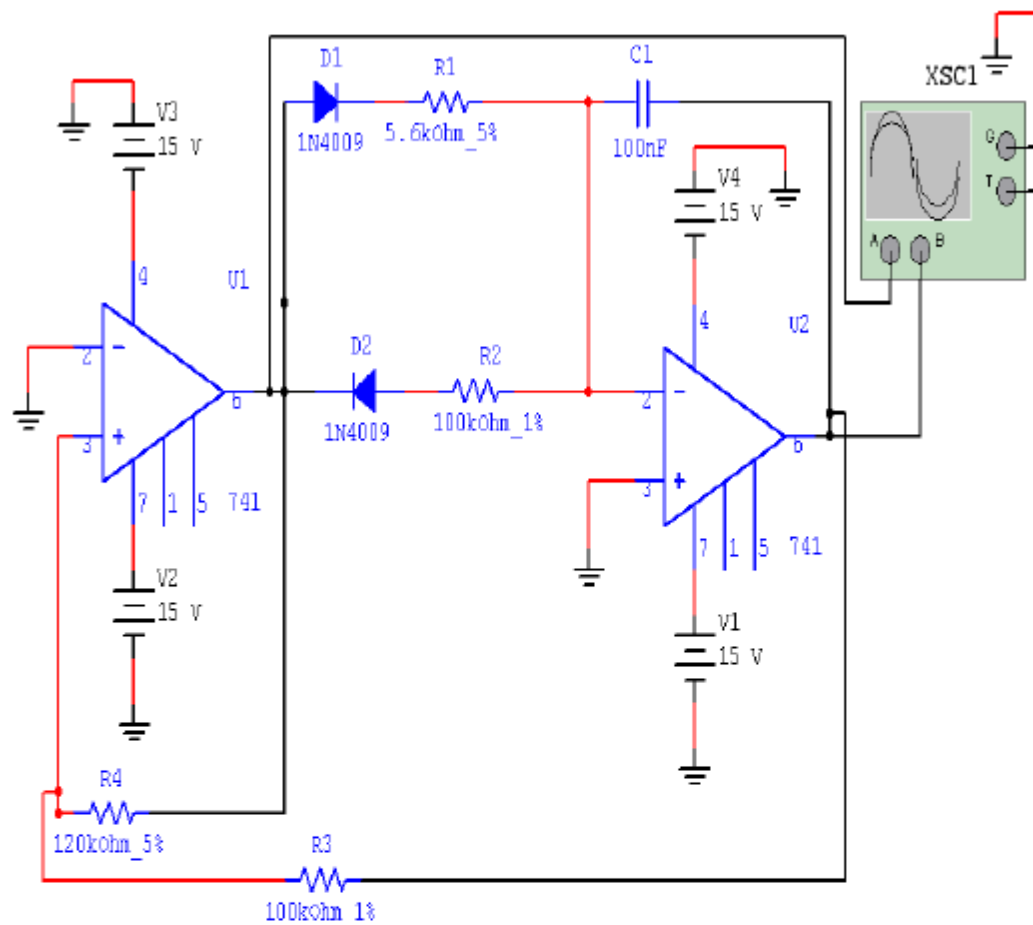

Fig.13 Saw tooth
- Construct the circuit shown in Fig.13.